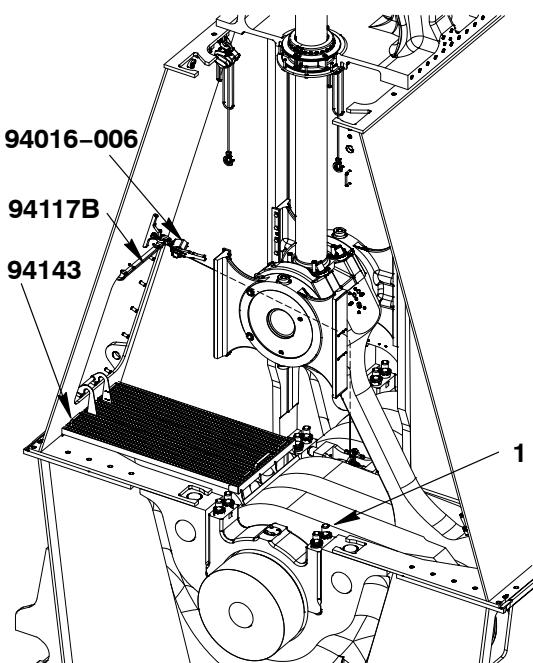

Fig. 2
- 3) Attach the work platform (94143, Fig.2)
- 5) Loosen the elastic studs (1) refer to 1132-1.